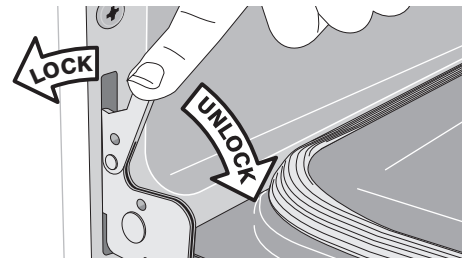
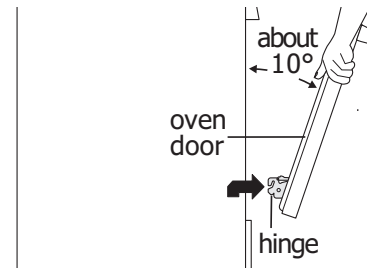

Figure 11: Door hinge locked
Figure 12: Unlocking door hinge
2. Pull up the lock located on each hinge support toward front of the oven until the lock stops. You may have to apply a little upward pressure on the lock to pull it up (Figure 11 and Figure 12).
4. Push the door hinge locks up toward and into the oven frame on both left and right oven door hinges to the locked position (Figure 11).